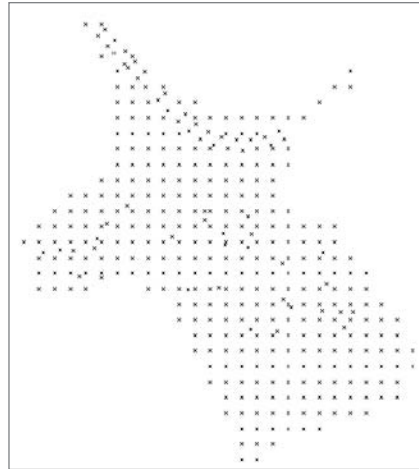

Figure 5.3
7. Click `OK`. The points will appear in the drawing as red `Xs` without labels, as shown in Figure 5.3.